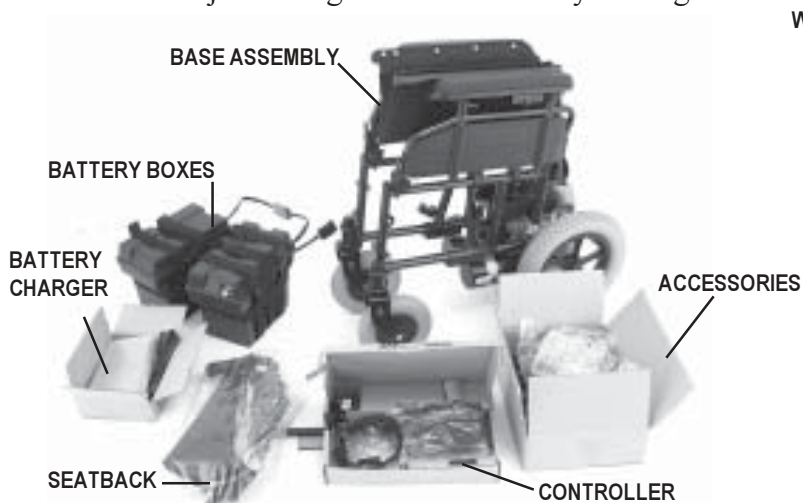

Figure 3. Pride LX Components
The contents of your Pride LX box are as follows: one (1) base assembly, one (1) seatback, two (2) battery boxes, one (1) controller box, one (1) battery charger box, and one (1) accessories box. The accessories box contains: one (1) battery frame, four (4) battery tray ball detent pins, one (1) toolkit, six (6) tie-wraps, two (2) anti-tip wheels, and two (2) swing-away leg rests. The toolkit contains all of the tools that you will need for assembly. Remove the contents and take inventory. If any parts are missing, contact your authorised PrideProvider immediately. See figure 3.